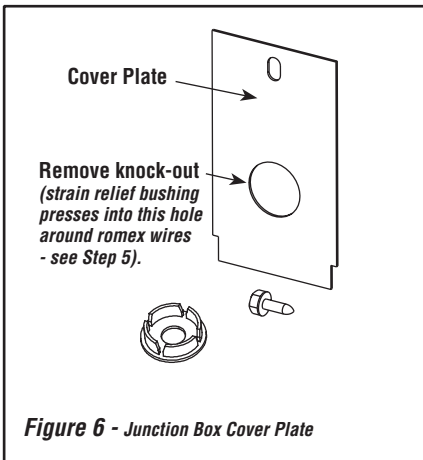

Figure 6 - Junction Box Cover Plate
Step 4. Locate the J-Box cover (provided). Remove the round knock-out (see **Figure 6**).